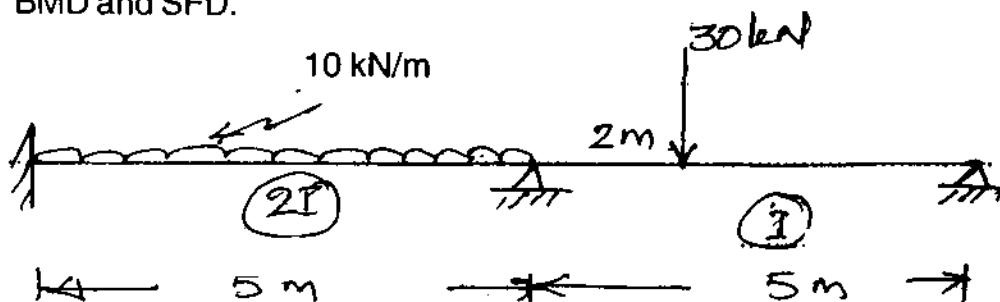

Fig. 3
11. Analyse the continuous beam shown in Fig. 3 by stiffness method and draw BMD and SFD.